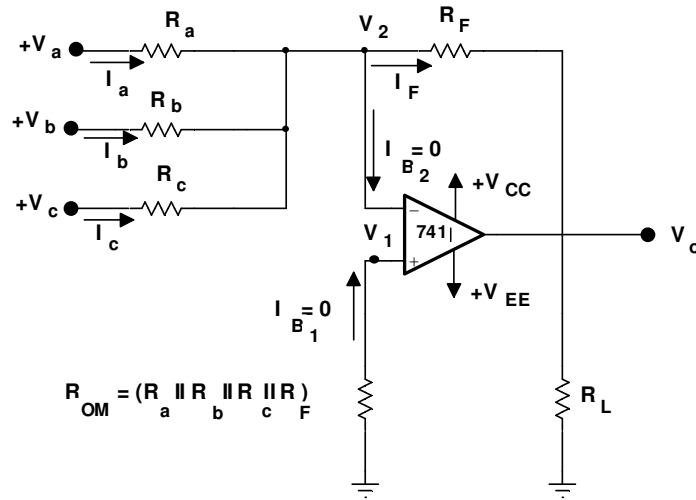

Fig. 78.9
**Ans.78(iii) Summing Amplifier:** Fig. 78.9 shows the inverting summing amplifier. It is an inverting configuration with three inputs  $V_a$ ,  $V_b$  and  $V_c$ . Depending on the relationship between the feedback resistor  $R_F$  and the input resistors  $R_a$ ,  $R_b$ , and  $R_c$ , the circuit can be used as a summing amplifier.